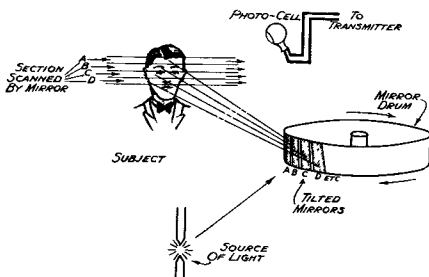

Fig. 10—HOW A MIRROR DRUM IS USED FOR SCANNING THE SUBJECT
**How the Mirror Drum Transmitter Operates. (Fig. 10.)**
The idea of using a mirror wheel for scanning the subject is quite an old one and was invented originally by Weiller. It makes ingenious use of the rotation of a drum and tilted mirrors placed on the circumference of that drum. Fig. 10 shows how this is done. The method employed